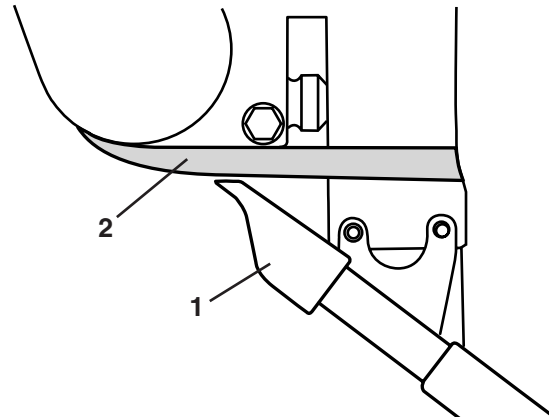

Figure 14
Apply minimal pressure between the scraper (Figure 14, item 1) and the belt (Figure 14, item 2).